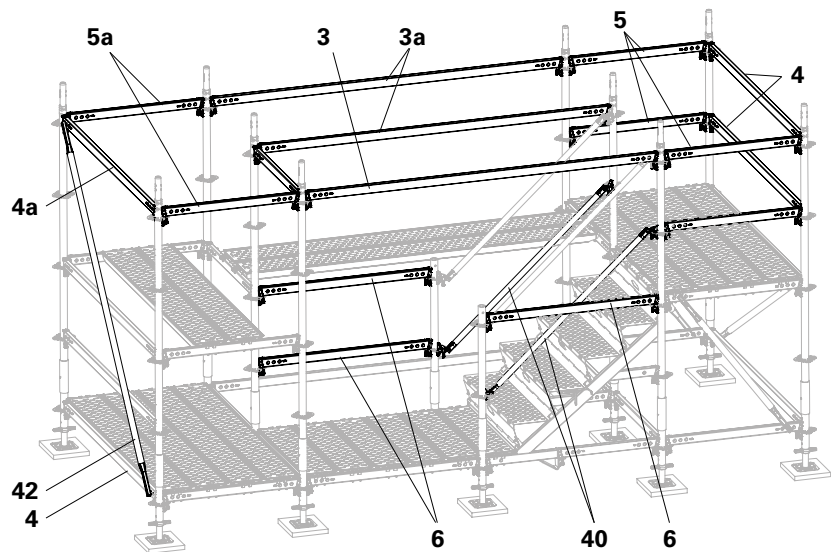

Fig. A8.09
5. Insert the Ledger Brace UBL-2 (**42**) into the lower Horizontal Ledger UH-2 (**4**) using the mounting finger, insert the tilt finger into the hole of the upper Horizontal Ledger UH-2 (**4a**) and turn finger to a transverse position to secure. (Fig. A8.09)